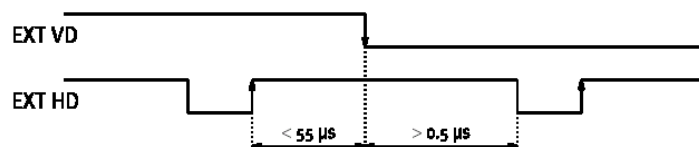

Fig. 10. Ext. HD and VD phase conditions.
The time requirements to the relation between VD and HD are shown in fig. 10.
- Requirements to HD/VD phase is shown in fig. 10